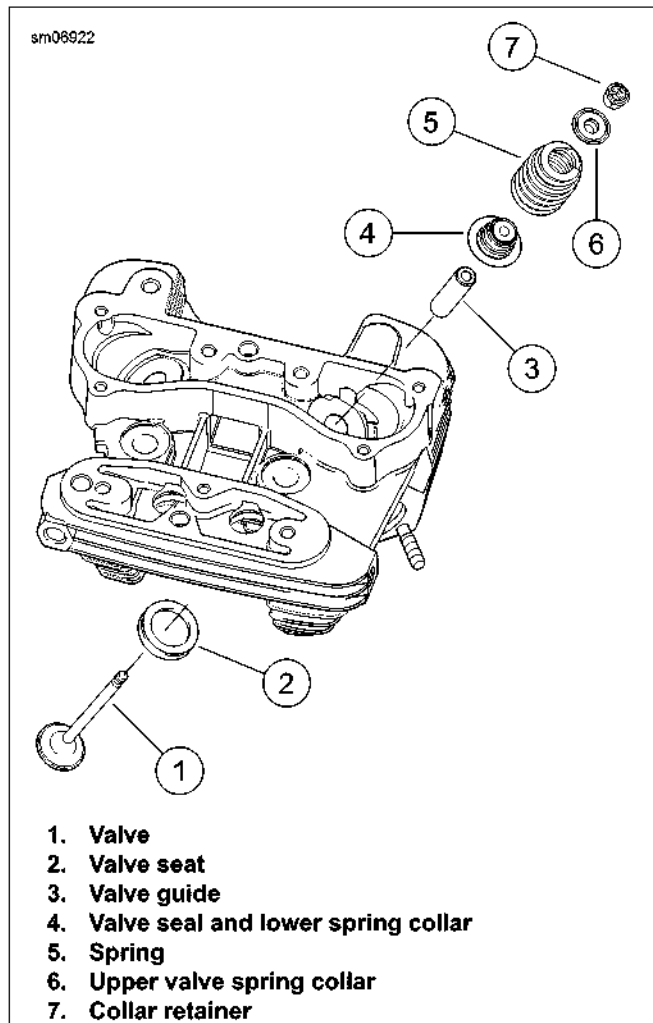

Figure 3-47. Cylinder Head
2. See Figure 3-47. Insert valve (1) into valve guide (3) and bottom valve on valve seat (2).
5. See Figure 3-47. Install valve spring (5) and upper collar (6).
7. See Figure 3-47. Insert valve collar retainers (7) into upper collar, making sure they engage groove in valve stem. The retainer gaps should be equal.